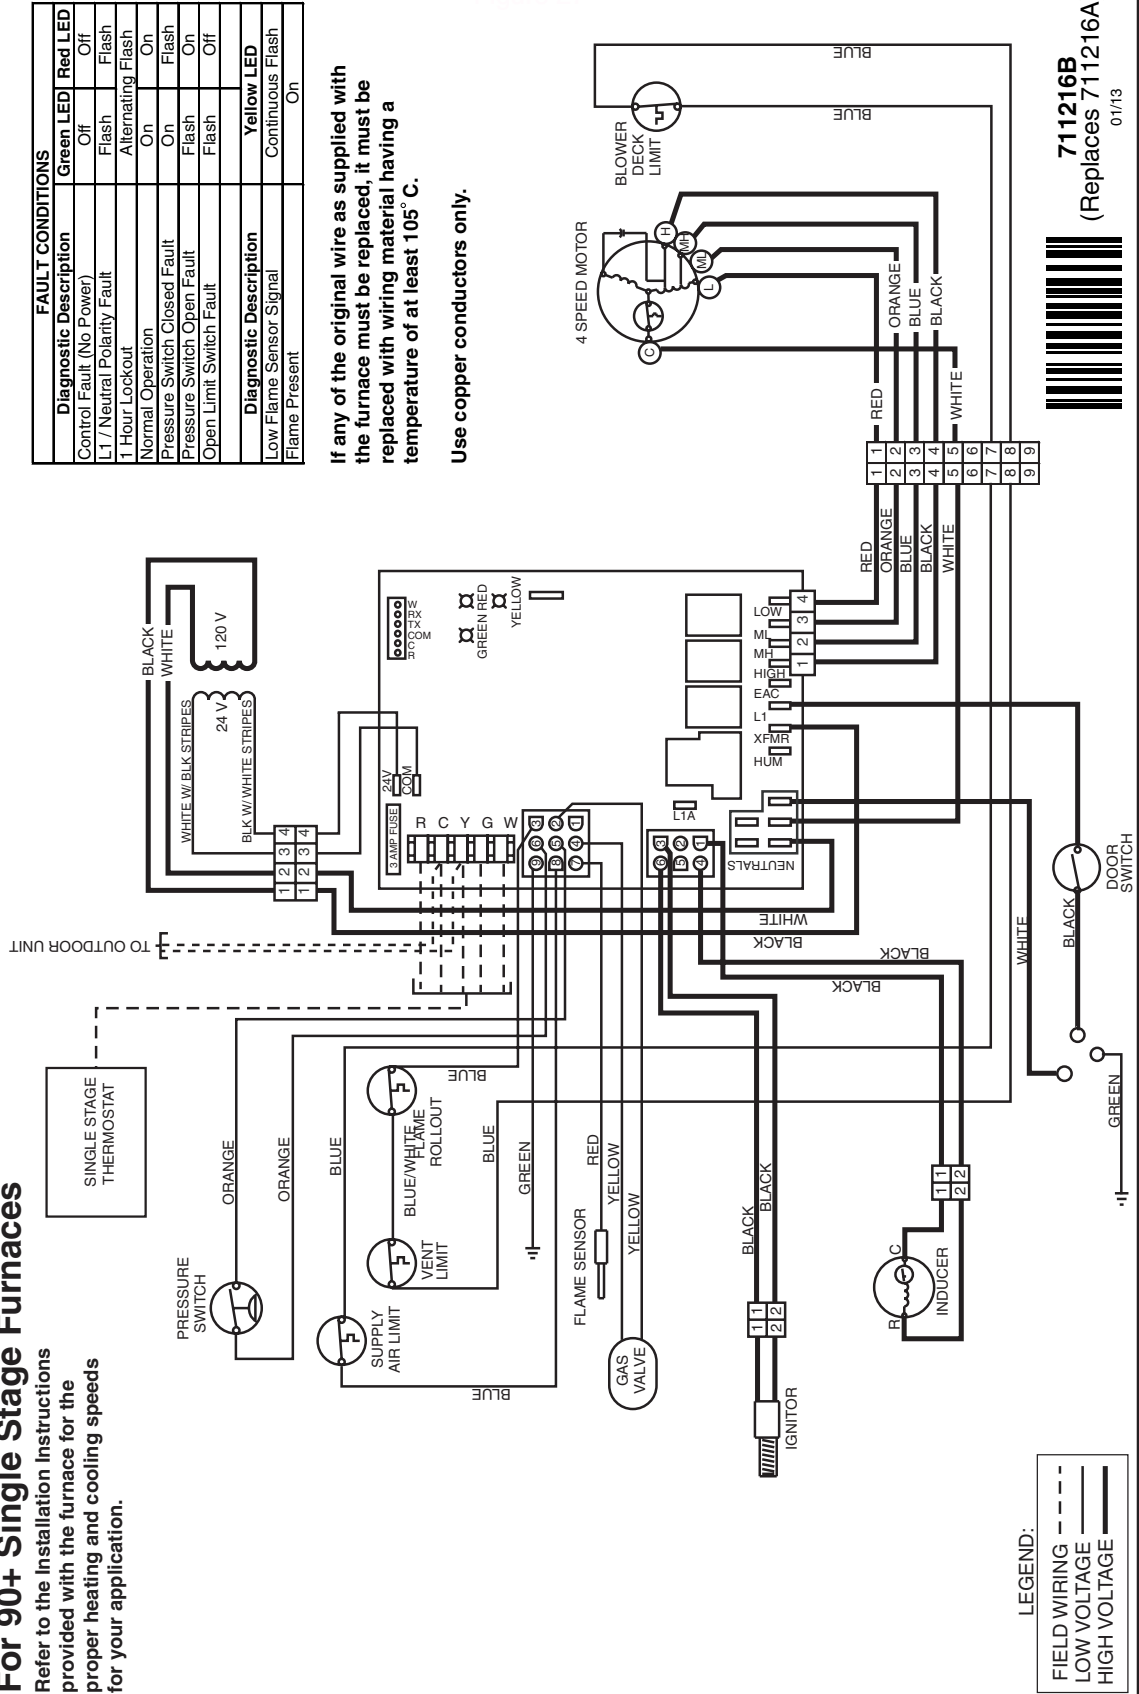

Figure 27. M7RL Wiring Diagram
- Are all the LED's on the furnace control board constantly ON? If not, refer to Table 7 or the wiring diagram (Figure 27 (page 33)) to determine fault condition.